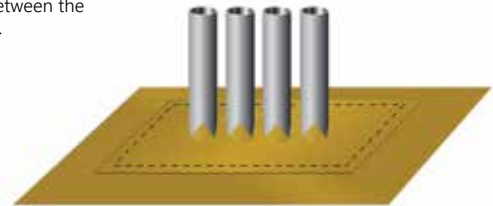

Fig. 8
- D) Once patch is positioned, seal the perimeter to the membrane by applying 2-sided VIAFLEX Butyl Seal Tape in-between the two layers. (Fig. 8)